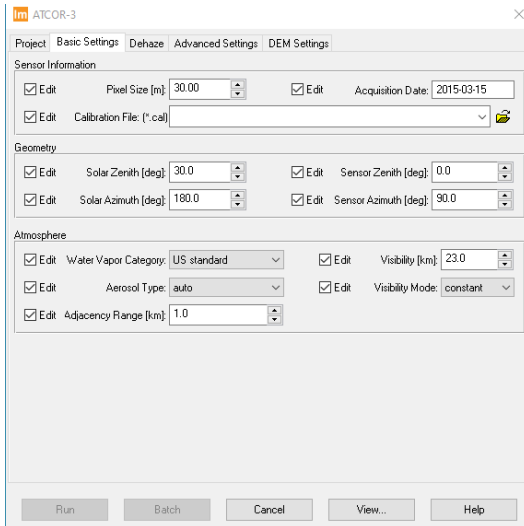

Figure 13: Basic Settings Tab of ATCOR-3.
6. Navigate from the Project Tab to the **Basic Settings Tab** (Figure 13).